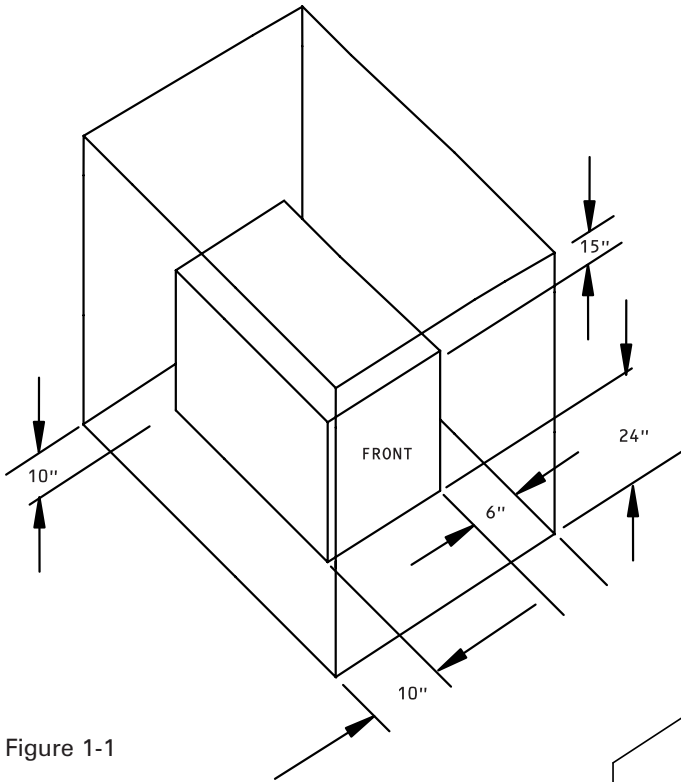
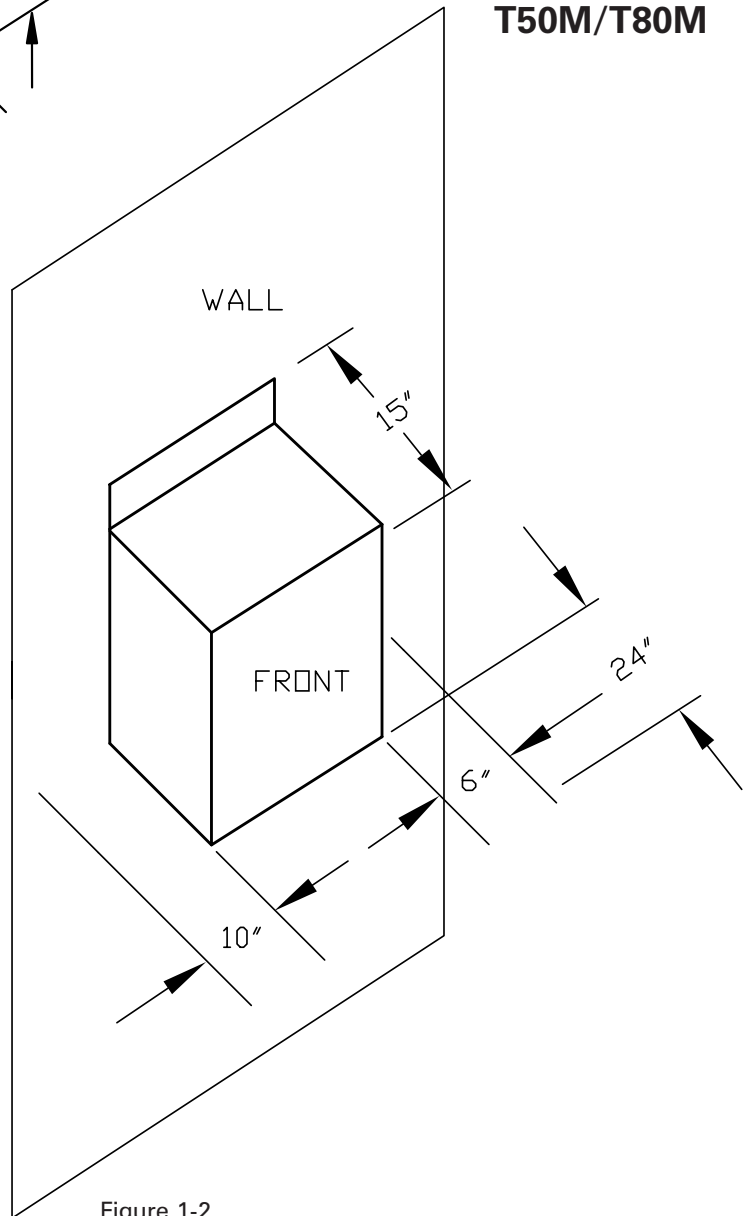

Figure 1-1
Figure 1-2
2. Refer to Figure 1.1 and Figure 1.2 for the recommended clearance to allow for reasonable access to the boiler. Local codes or special conditions may require greater clearances.
**Note: Service clearance of the Munchkin: See Section 1, Figures 1-1 and 1-2.**